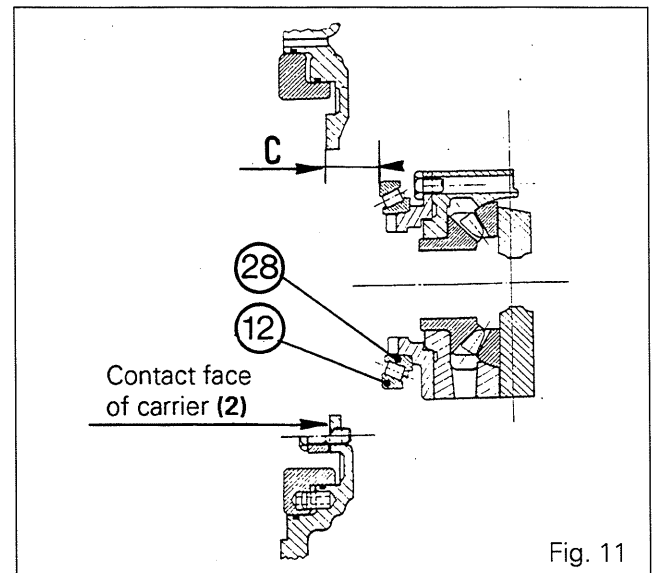

Fig. 11
63. Calculate distance **C** between the bearing cup (12) and the mating face on the carrier (2) (Fig. 11):